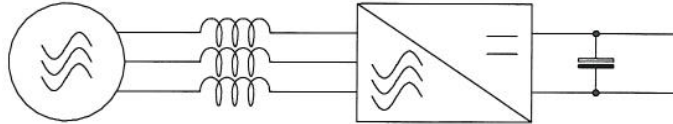

Figure Q5.2 An AC to DC converter and AC supply
- (d) A three-phase AC to DC converter is connected as shown in figure Q5.2 to a 415 V(line), 50 Hz three-phase system via a set of inductors of 4 mH each. Calculate the inverter voltage (magnitude and phase) necessary to draw 35 kW from the inverter to the three-phase system at unity displacement factor. Calculate the voltage required to return 35 kW to the three-phase system from the DC side.